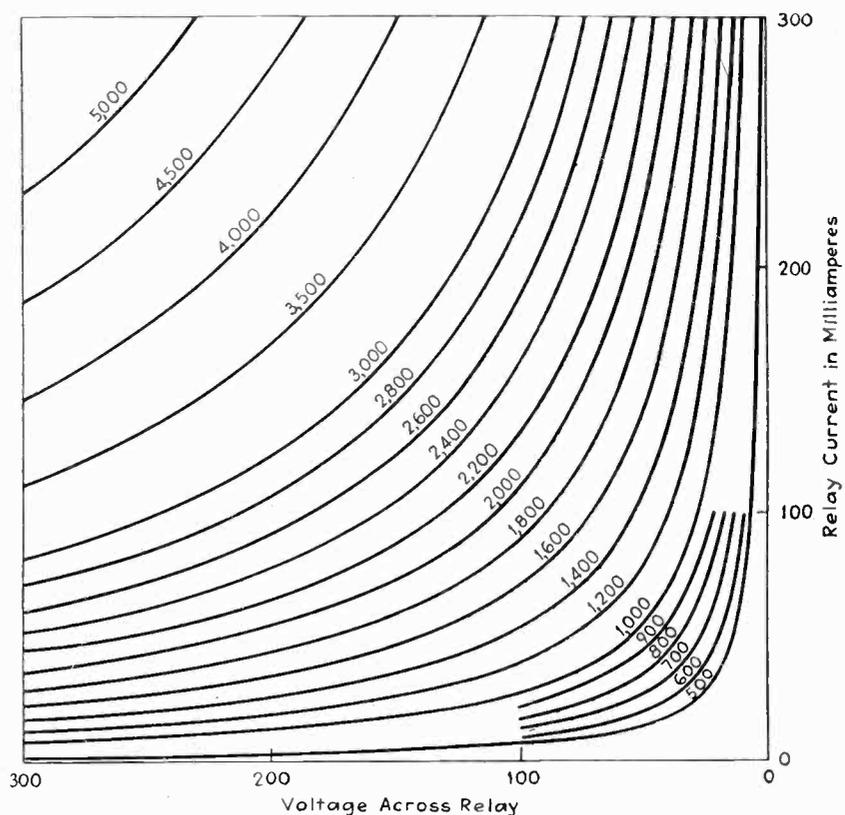

Fig. 2—Hyperbolic curves giving telephone relay ampere turns as a function of voltage and current
lay, showing the magnetomotive force plotted as a function of relay current and voltage on rectangular coordinates, are rectangular hyperbolas giving loci of equal ampere-turns. The characteristics of rectangular hyperbola\* are such that a change of scale does not change their relative shapes, and it is this property which permits us to superimpose the relay and tube characteristics even though the scales may be dissimilar. By changing the scale of the hyperbolas of Fig. 2, using Eq. (3) for determining the conversion ratio, the same hyperbolic curves can be used to determine the power output of the tube under operating conditions.
The method of using Fig. 2 in connection with tube static characteristics depends upon having a copy of Fig. 2 to a scale suitable for use with tube characteristics, plotted on some transparent medium. It is essential that the voltage and current scales on this transparent scale be evident, since they must be compared with the equivalent scales of the tube characteristics in order to determine the proper multiplying factors. In using this chart it has been found useful to
It will now be necessary to determine the scale ratio for Fig. 2 when used with any set of tube static characteristics. To do this compare the voltage scale on the relay characteristic with the voltage scale on the tube characteristics, and the current scale of the relay chart with the current scale on the tube characteristics. If the voltage change on the tube characteristics corresponding to a 100 volt change on the relay characteristic is  $E_t$ , and if  $I_t$  is the plate current variation of the tube characteristics corresponding to a relay current change of 100 milliamperes, then the scale multiplying factor will be
Fig. 3—Superposition of a transparent drawing of Fig. 2 on the static characteristics of the 6L6. The origin of the relay curve corresponds to the operating point,  $E_b = 400$ ,  $I_b = 0$ . The dotted line is the load line for maximum power output assuming the grid voltage may go to zero.